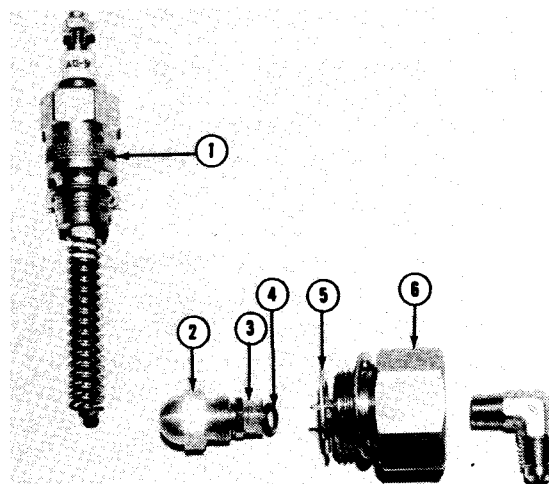

Fig. 10-1, (N21019). Glow plug preheater adapter spray nozzle
1. Remove preheater adapter (6, Fig. 10-1) and glow plug (1) from intake manifold.
2. Remove nozzle (2) and clamping washer (5) from adapter (6).
3. Clean adapter and nozzle with Bendix carburetor cleaner, or equivalent. Be sure nozzle screen (3, Fig. 10-1) and spray holes are open and clean. Check "O" ring (4) for damage.
5. Assemble clamp washer (5, Fig. 10-1) and nozzle (2) to adapter (6).